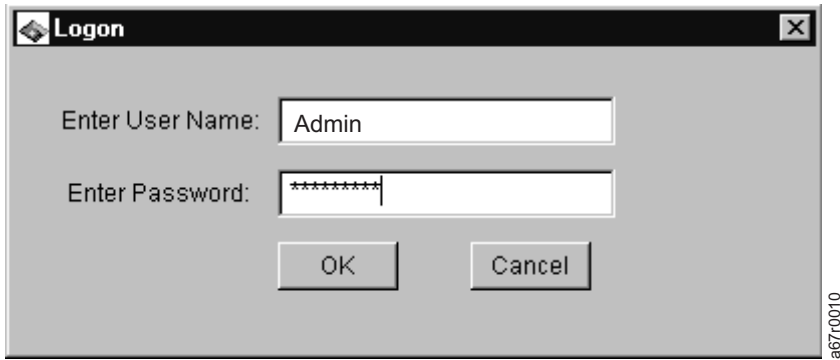
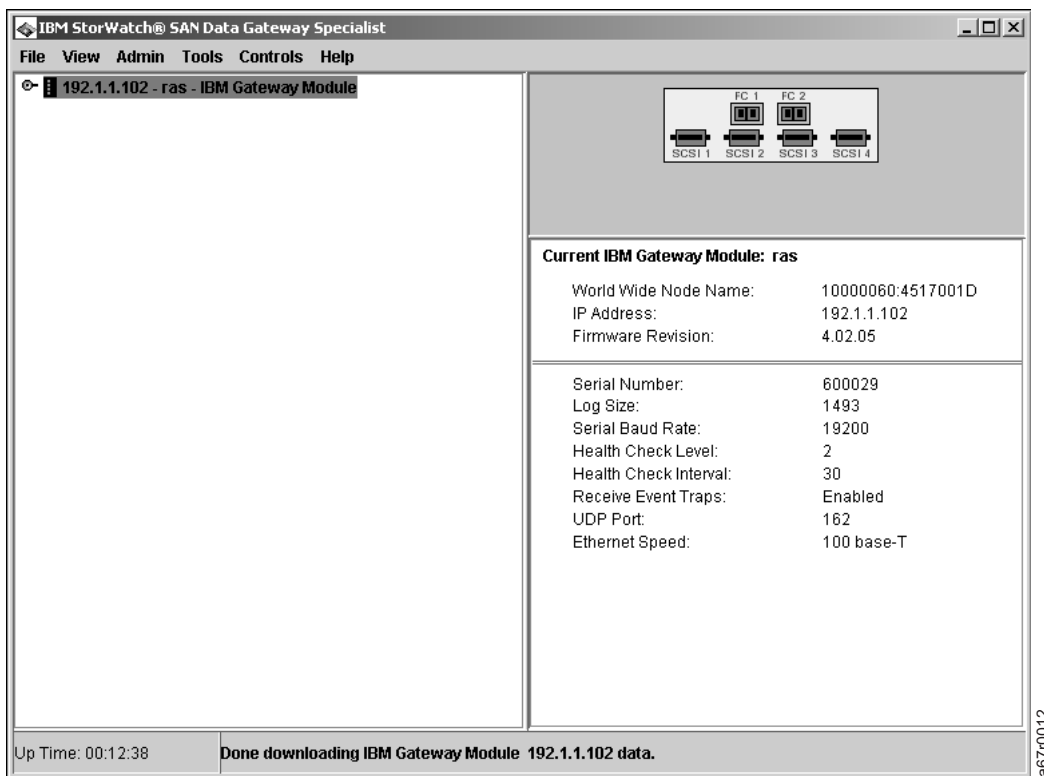

Figure 4-209. Logging on to the Server
Figure 4-210. Initial Tree View
- __ 5. To log on, type "Admin" in the Enter User Name field and type "password" (or the current password) in the Enter Password field, then click OK. Refer to Figure 4-209 on page 4-132 and Figure 4-210 on page 4-132.